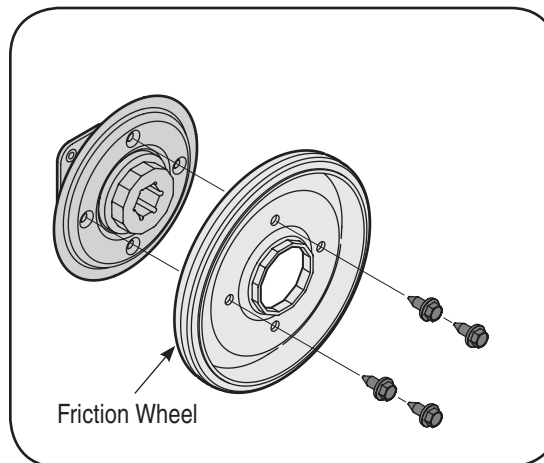

Figure 33
- Remove four screws securing the friction wheel rubber between the friction wheel plates. See Figure 33. Discard old rubber.